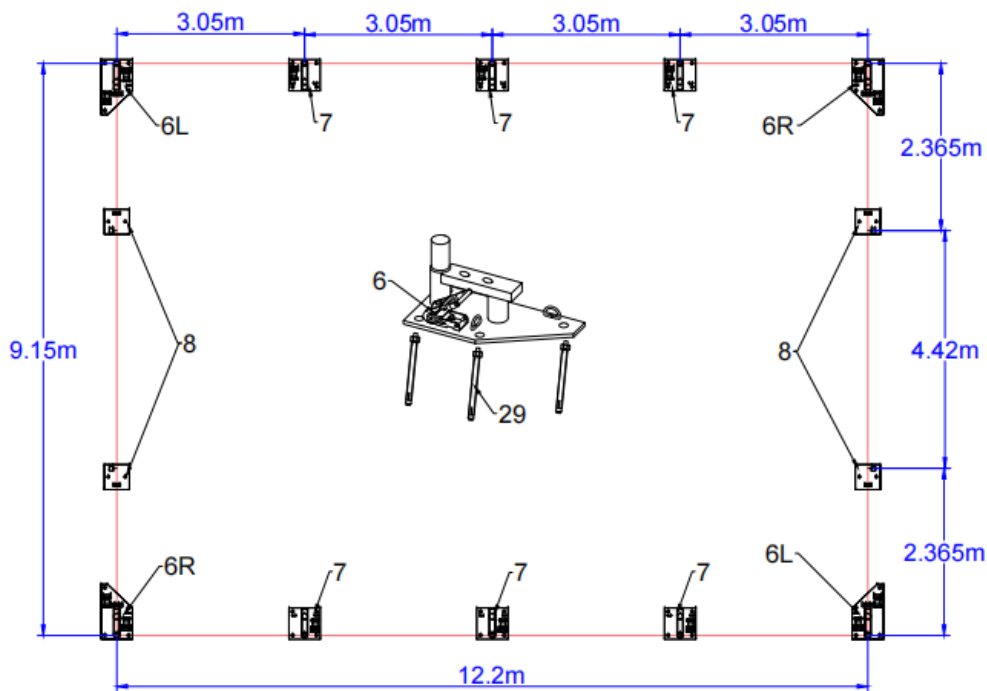

Figure 2: Foundation Placement
Please refer to the diagram (Figure 2) to place the base plates.
2. As Figure 2 shows, each base plate is equipped with 4 pieces of expansion screw. Mark the expansion screw hold through the base plate by using the expansion screw. Move the base plates away and the mark determines where the expansion screw will be.